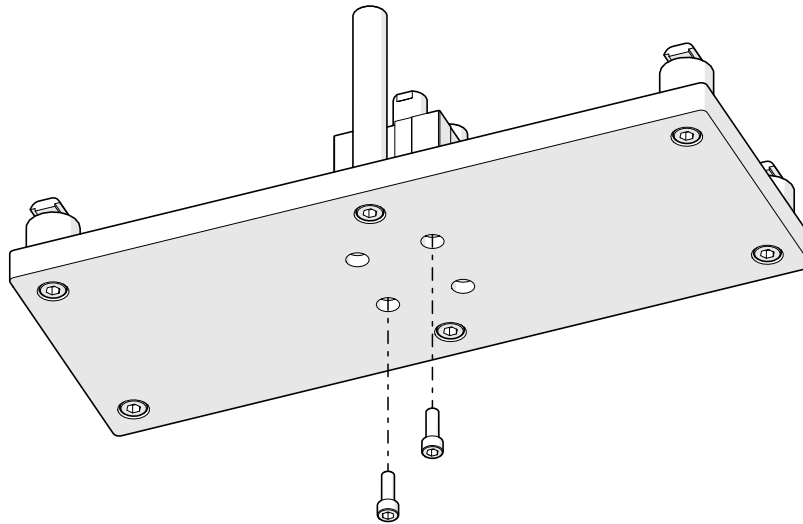

Figure 14: Removing M6 SHCS
Step 2: Remove M8 SHCS, Top Plate, and P-00614 Washer (Figures 14 & 15)